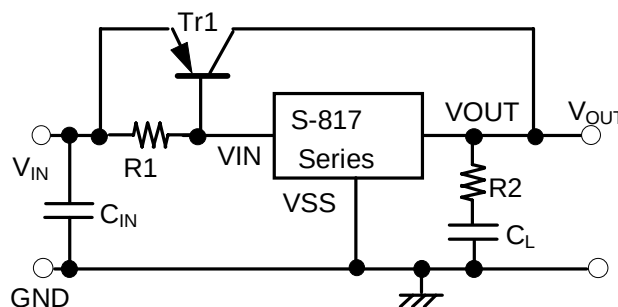

Figure 10 Output Current Boosting
As shown in Figure 10, the output current can be boosted by externally attaching a PNP transistor. The base current of the PNP transistor is controlled so that output voltage V_{OUT} goes the voltage specified in the S-817 when base-emitter voltage V_{BE} necessary to turn on the PNP transistor is obtained between input voltage V_{IN} and S-817 power source pin V_{IN} .
- To improve transient response characteristics of the output current boosting circuit shown in Figure 10, check that no problem occurs due to output fluctuation at powering on or due to power or load fluctuation under normal operating conditions.